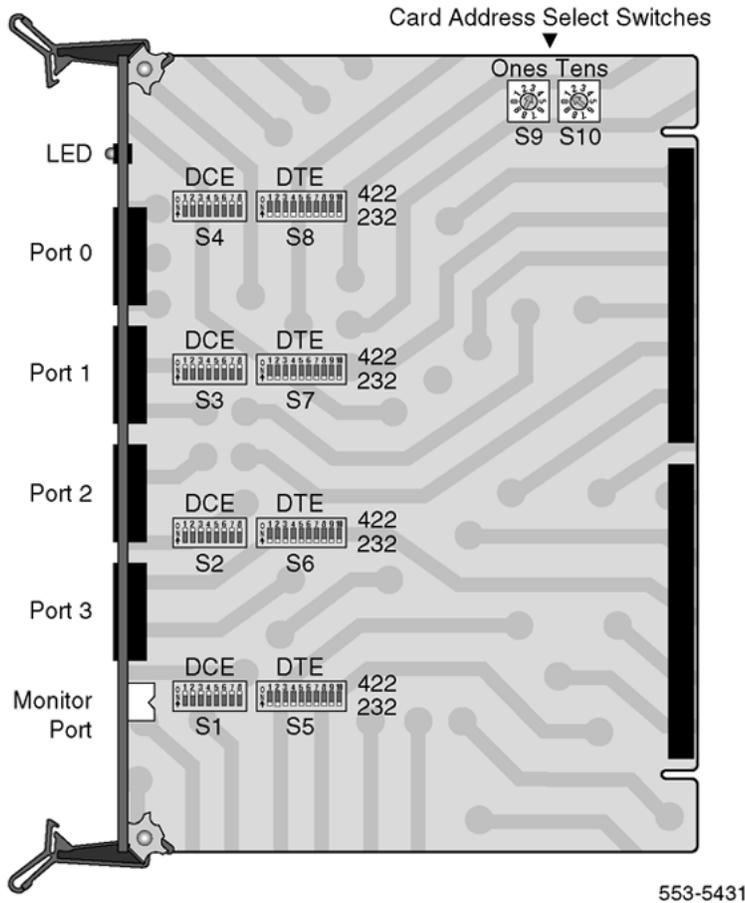

Figure 75: MSDL/ISL settings
- External clock (in LD17) provided by modem, ADM, or ASIM, HSDM: otherwise, DCH runs at 64 Kbps. Refer to Figure 75: MSDL/ISL settings on page 212.